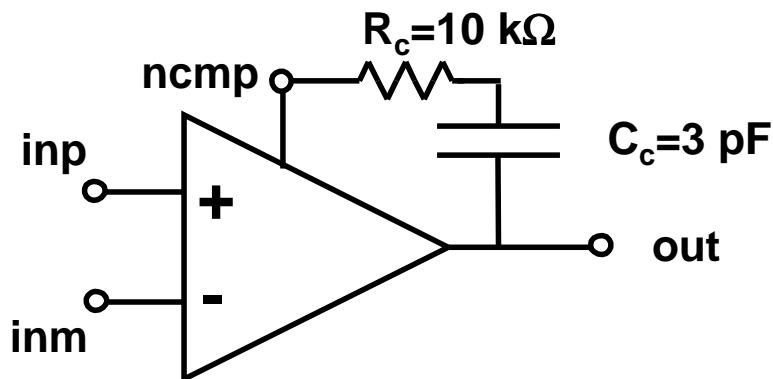

Figure 1: Op amp with external  $RC$  network compensation.
**Specification:** The goal for this design project is to apply the circuit techniques and design insight discussed in class to develop an operational amplifier. The amplifier is compensated with a fixed external  $RC$  network as shown in Figure 1. The design must meet the following specifications: